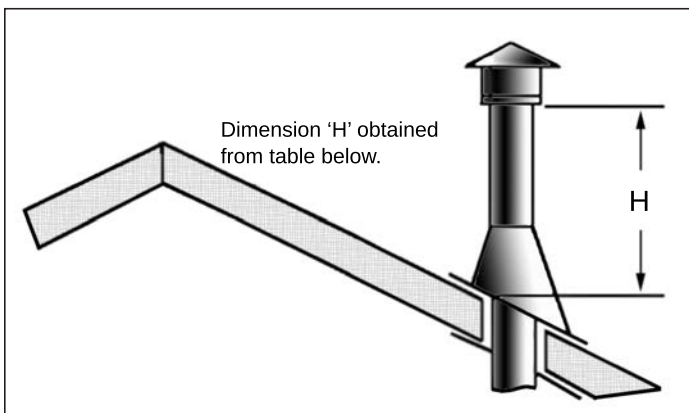

Figure 44: Height of Vertical Termination; Reference Table 8.
- STEP 8.** Continue to add pipe sections until the height of the vent cap meets the minimum code requirements. Refer to Figure 44 and Table 10. Note that for steep roof pitches, the vent height must be increased. In high wind conditions, nearby trees, adjoining roof lines, steep pitched roofs, and other similar factors can result in poor draft, or down drafting. In these cases, increasing the vent height may solve the problem.